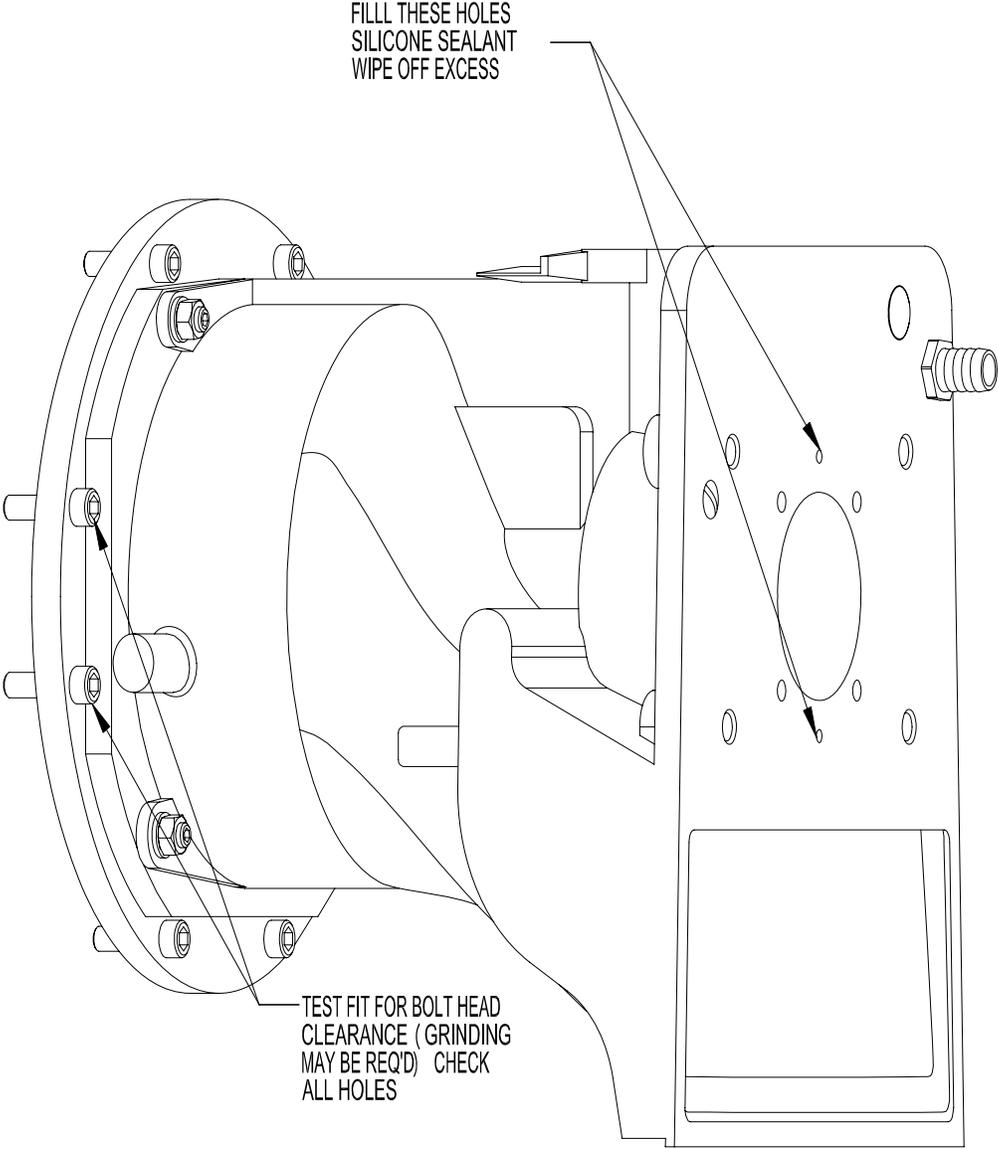

FIG 3
21. Test fit the suction piece adapter to the drive housing. Screw the (4) 3/8 studs into the adapter FIG.3 & 4. Install with Loc-Tite and make sure they don't protrude above the machined surface.
23. Insert all eight (8) 3/8-16 Socket head cap screws into flange holes to make sure you have enough bolt head clearance. If you need additional clearance, mark the spot with a sharpie marker, remove the suction piece adapter and then grind or file for proper clearance FIG.3. Test fit again.
26. Fill the two holes in the drive housing with silicone seal FIG.3 - Photo 12